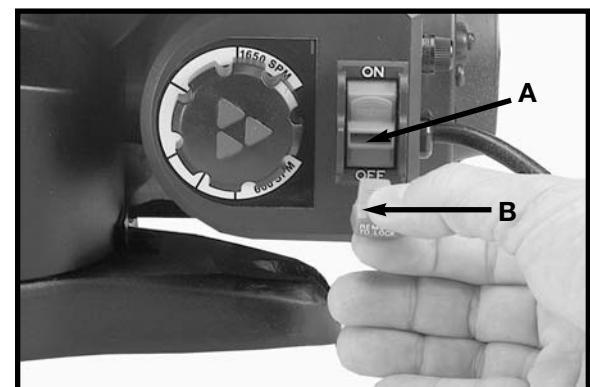

Fig. 6
**IMPORTANT:** When the tool is not in use, the switch should be locked in the "OFF" position. Grasp the switch toggle (B) Fig. 6, and pull it out as shown. With the switch toggle (B) removed, the switch, (A) Fig. 6, will not operate.